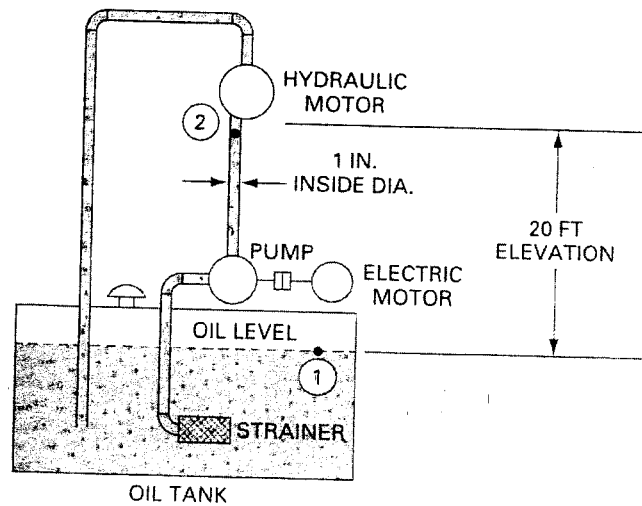

Figure S2.3
c) Figure S2.3 shows a hydraulic system with the given data: